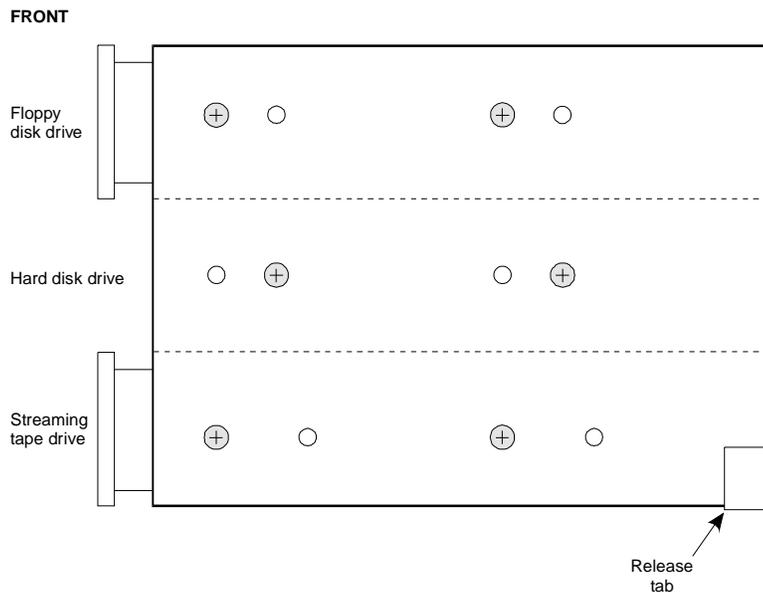

Figure C-16. Hard Disk Drive Tray Securing Screws
3. Remove the two screws on each side of the drive housing that secure the hard disk drive tray. Set screws aside to use again. See Figure C-16.